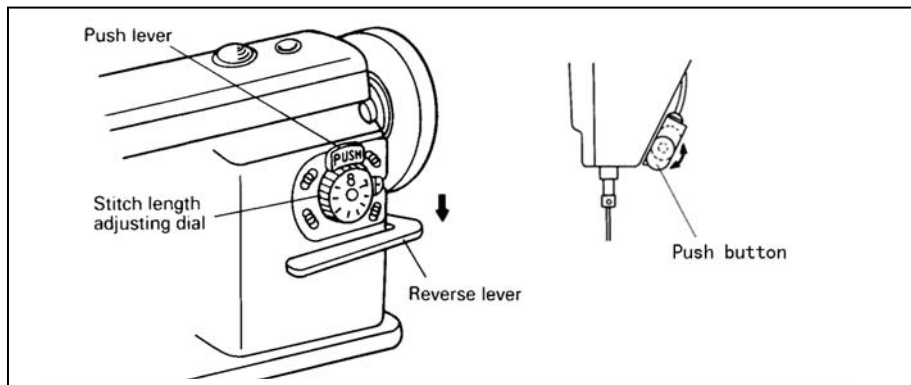

Fig.16
- 8) When manipulating the switch in the control box, first turn off the power switch, then open the front cover (Fig.16). If you have to open the bottom cover, wait for 10 minutes after the power switch has been turned off, since a high voltage is applied inside the box. (This is vital to discharge the built-in capacitors).
### 19、 Adjustment of stitch length and reverse sewing (Fig.16):